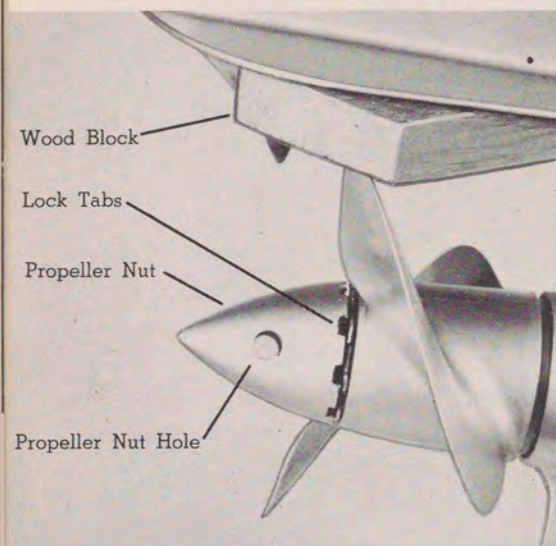

Figure 15
1. **CAUTION:** Because of the motor's ease in starting, place a block of wood between the anti-cavitation plate and propeller to prevent accidental starting and to protect the hands from propeller blades while removing the propeller nut. (See Figure 15.)